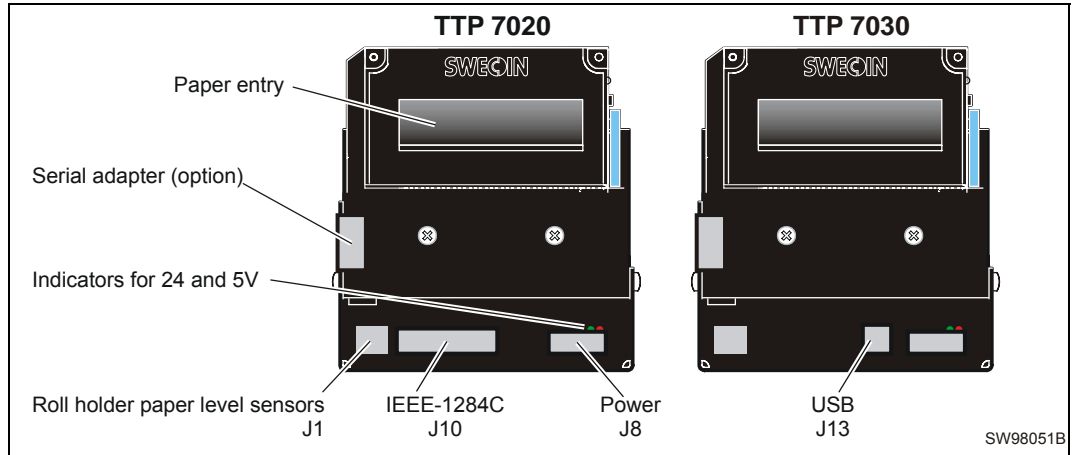

Figure 1. Printer exterior, rear view
- The status indicator (see Figure 1) has several functions: